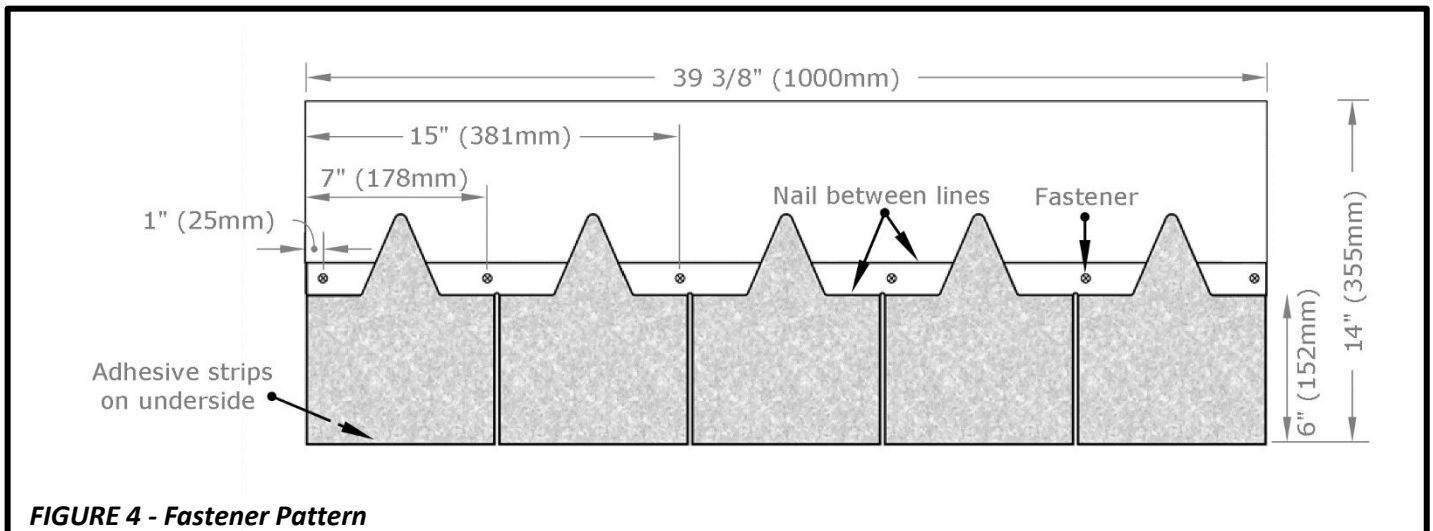

FIGURE 4 - Fastener Pattern
- Fasteners must be located **1" (25mm)** from the top of the exposure and within the F-WAVE® REVIA® Roofing Shingle Nailing Zone. Fastener locations are **1" (25mm)**, **7" (178mm)** and **15" (381mm)** from each end of the shingle as indicated on each shingle. See **Figure 4**. Fasteners must not be exposed once the installation is complete.